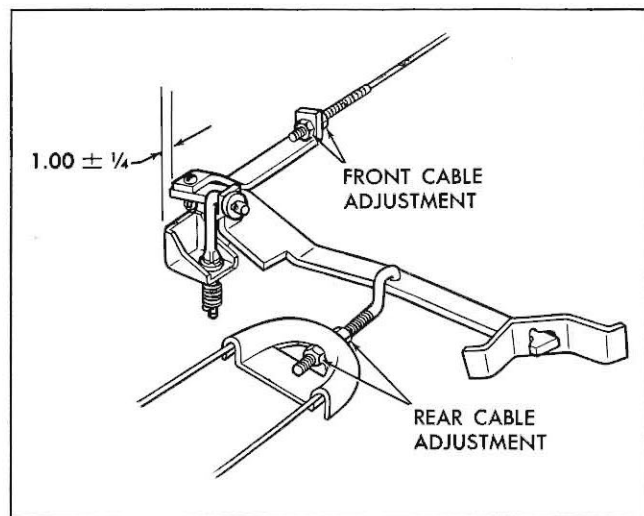

Fig. 2—Parking Brake Linkage Adjustment
3. Adjust front cable to position parking brake idler lever $1'' \pm \frac{1}{4}''$ forward of rear edge of bracket (Fig. 2).